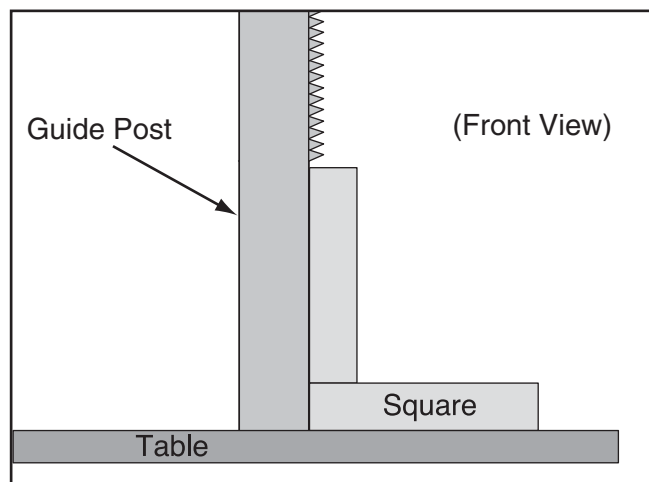

Figure 66. Example of checking guide post squareness.
6. Place a machinist's square on the table next to the right hand side of the guide post, as shown in **Figure 66**.